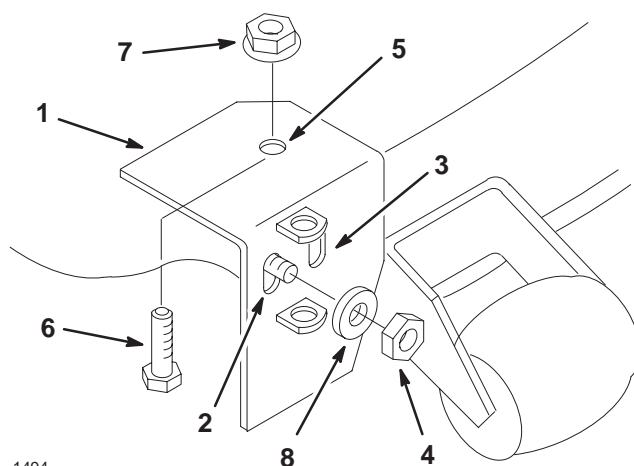

Figure 9
2. With the correct hole, slide the pivot support over the threaded stud welded to front of mower near the discharge opening (Fig. 9).
3. Align the pivot support parallel with front curved edge and tight against top of mower (Fig. 9). Clamp in this position.
5. Secure the pivot support to the mower with a bolt (5/16 x 3/4 inch), through from the underside of the mower, and a flange nut (5/16 inch) (Fig. 9).